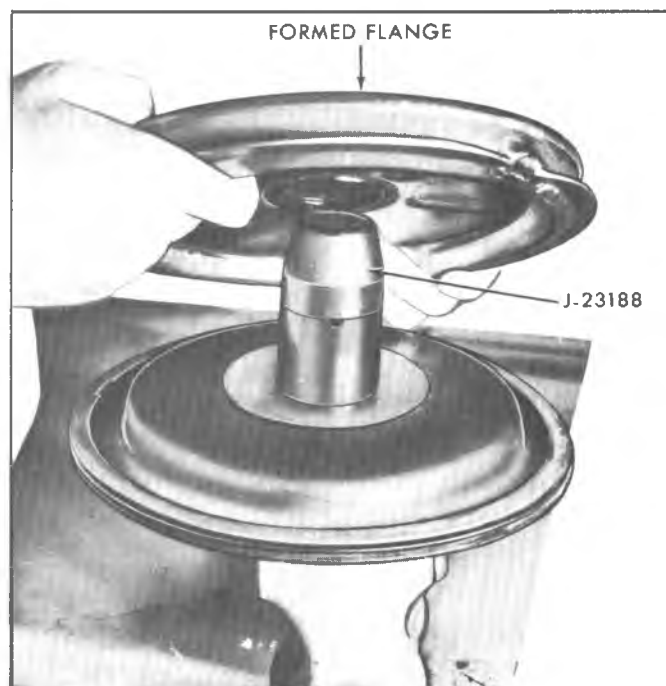

Fig. 14B--Positioning Housing Divider Over Secondary Bearing Protector Tool J-23188
28. Position secondary Bearing Protector Tool J-23188 on the threaded end of the secondary power piston (fig. 14B).